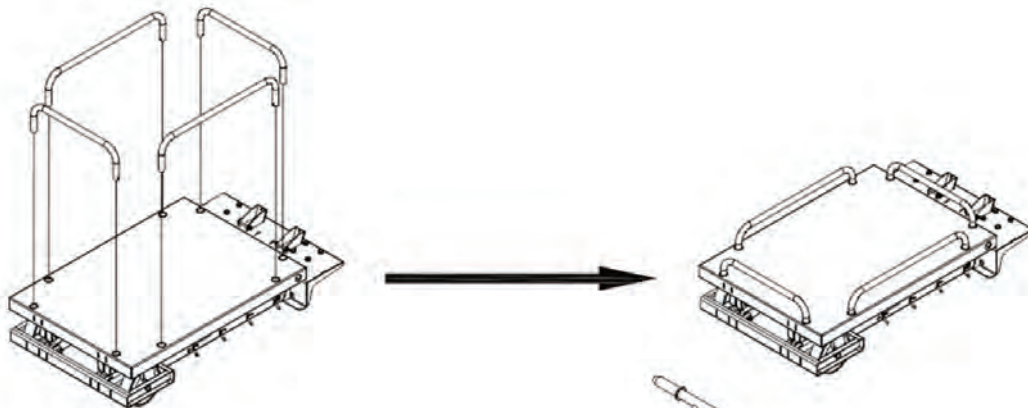

FIGURE 1
3.1 Fold Down the Guard Rails(**FIGURE 1**)